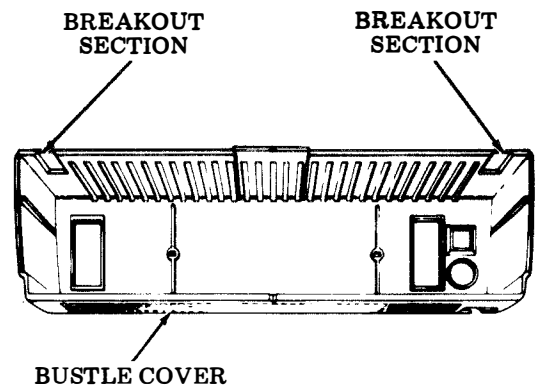

Fig. 5
4.06 The teleprinter bustle cover has two breakout sections on the underside of the cover which must be removed. These breakouts are grooved so as to guide the breaking out of these sections. See Fig. 5.